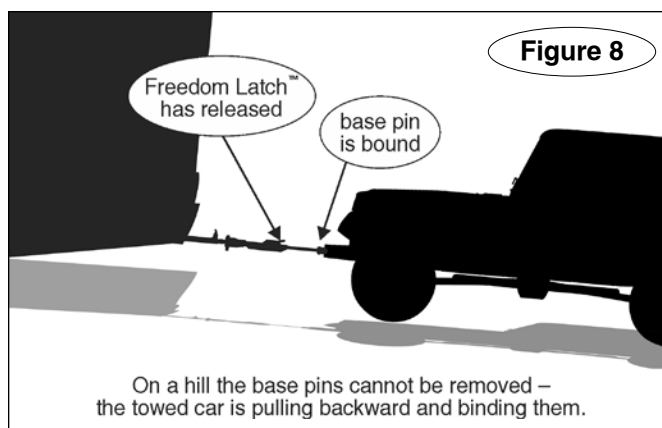

Figure 8
*Note: if you must park on an uphill incline, you may find that you cannot remove the base pins even with the tow bar arms released. The weight of the towed vehicle trying to roll back (Figure 8) is binding the pins in place.*